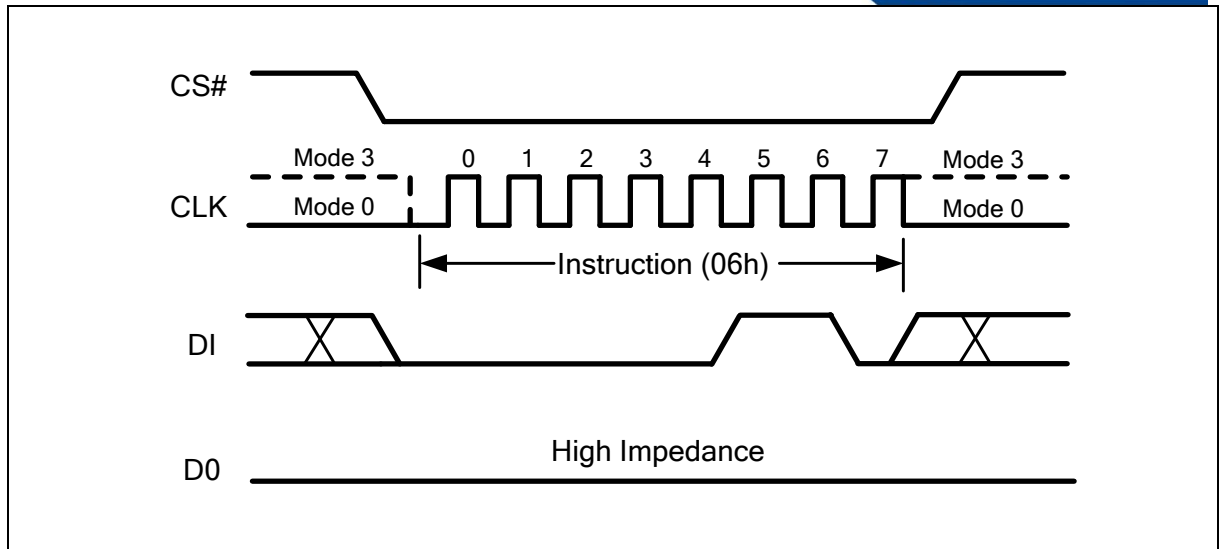
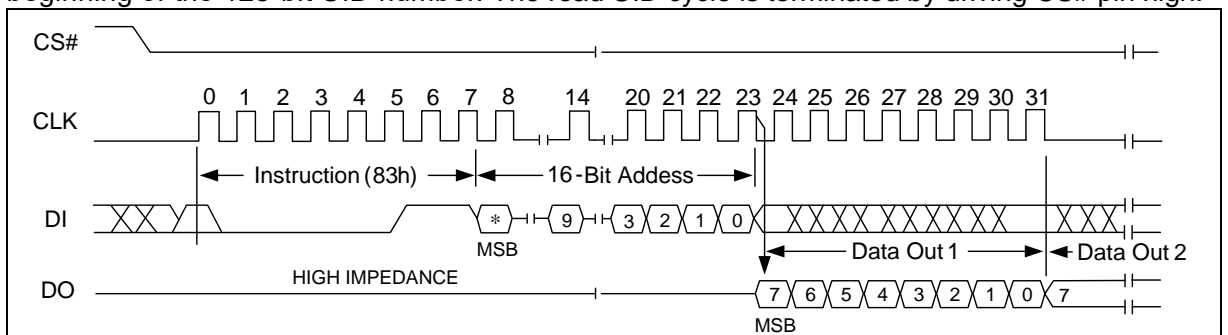

Figure 5 Write Enable Instruction
Figure 15 Read UID Number Sequence
Instructions vary in length from a single byte to several bytes and may be followed by address bytes, data bytes, and in some cases, a combination. Instructions are completed with the rising edge of edge CS#. Clock relative timing diagrams for each instruction are included in Figure 5 through Figure 15. All read instructions can be completed after any clocked bit. However, all instructions that Write must complete on a byte boundary (CS# driven high after a full 8-bits have been clocked) otherwise the instruction will be ignored. This feature further protects the device from inadvertent writes. Additionally, while the memory is being written, or when the Status Register is being written, all instructions except for Read Status Register will be ignored until the write cycle has completed.
The Write Enable (WREN) instruction (Figure 5) sets the Write Enable Latch (WEL) bit in the Status Register to a 1. The WEL bit must be set prior to every Write and Write Status Register instruction. The Write Enable (WREN) instruction is entered by driving CS# low, shifting the instruction code "06h" into the Data Input (DI) pin on the rising edge of CLK, and then driving CS# high.
The Read Unique ID Number instruction accesses a factory-set read-only 128-bit number that is unique to each FM25N128A device. The ID number can be used in conjunction with user software methods to help prevent copying or cloning of a system. The Read Unique ID instruction is initiated by driving the CS# pin low and shifting the instruction code “83h” followed by a 16-bit address A15-A0 into the DI pin. Address bit A9 must be ‘1b’, upper address bits are don't care, the lower address bits [A3:A0] define the byte address inside the UID. After which, the 128-bit ID is shifted out on the falling edge of CLK as shown in Figure 15. When the end of the 128-bit UID number is reached (16 bytes of data), the data word address will roll-over back to the beginning of the 128-bit UID number. The read UID cycle is terminated by driving CS# pin high.